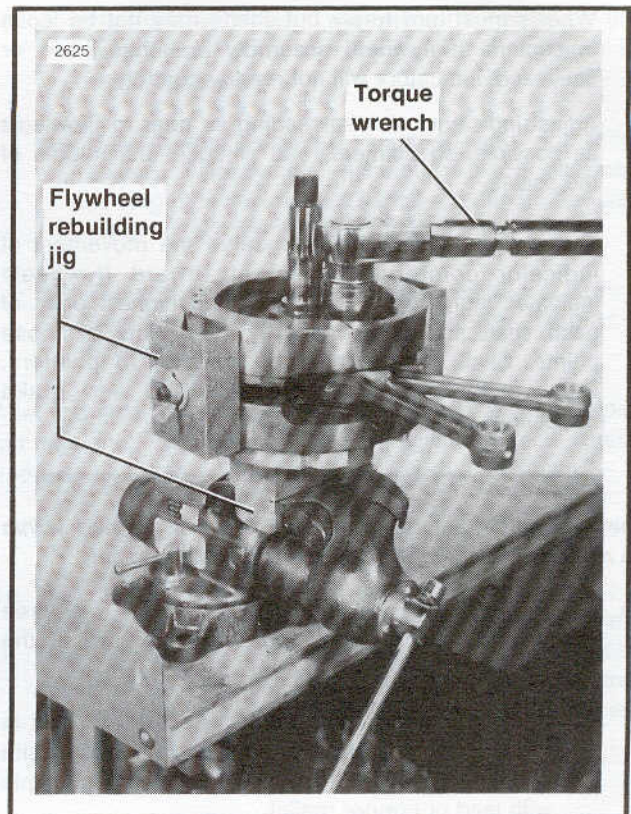

Figure 3-64. Assembling Flywheels
7. See Figure 3-64. Place flywheel assembly in FLYWHEEL ASSEMBLY JIG, Part No. 34813. Tighten crankpin nut to a preliminary torque of 180 ft-lbs.
14. See Figure 3-64. When wheels are true, place flywheel in FLYWHEEL ASSEMBLY JIG, Part No. 34813 and using a torque wrench, tighten crank pin nuts to 210 ft-lbs final torque. Recheck for truing and runout, and if either is not within specification, repeat truing procedure.